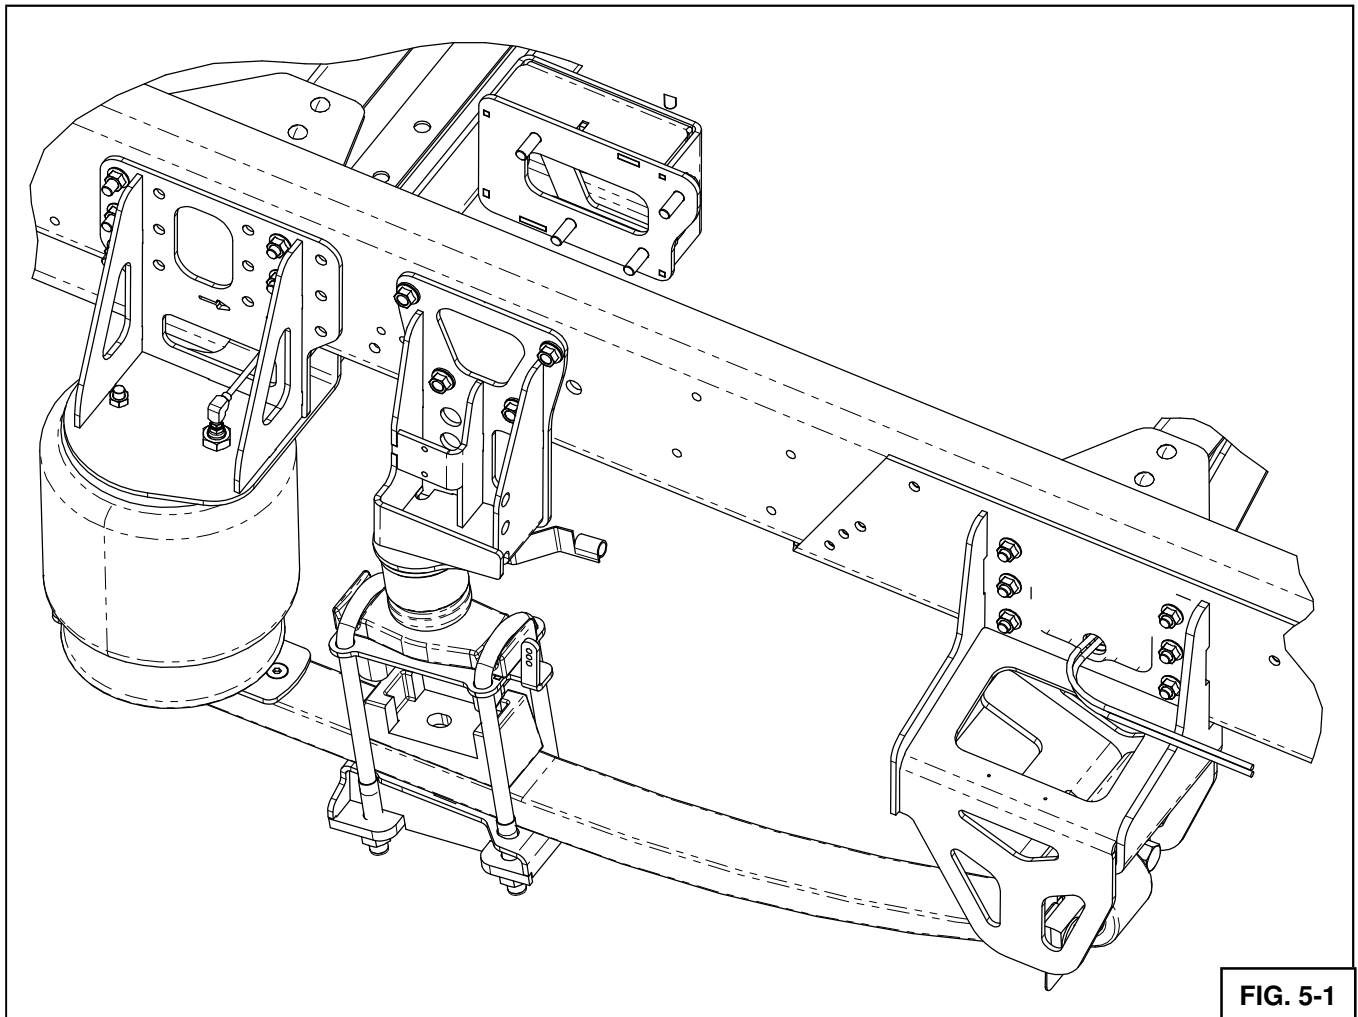

FIG. 5-1
1. Repeat Section 3 for the passenger's side of the vehicle. See Fig. 5-1.
2. Place UPPER LATERAL CONTROL BRACKET to the inside of the frame rail, with attached fasteners protruding from inside of frame. Place VALVE/BUMPER BRACKET onto these same fasteners and loosely attach using (4) 1/2 UNC FLANGE NUTS.